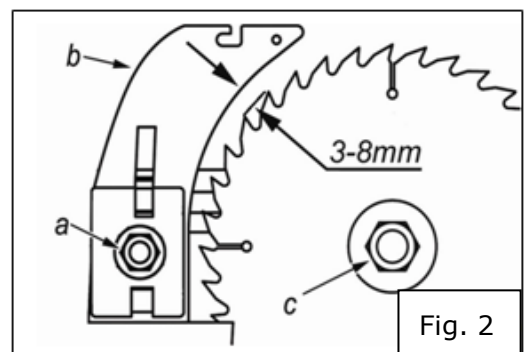

Fig. 2
- Loosen the screw (a) and the riving knife (b) at a distance of about 3mm - 8mm adjust the saw blade. -Fig. 2-